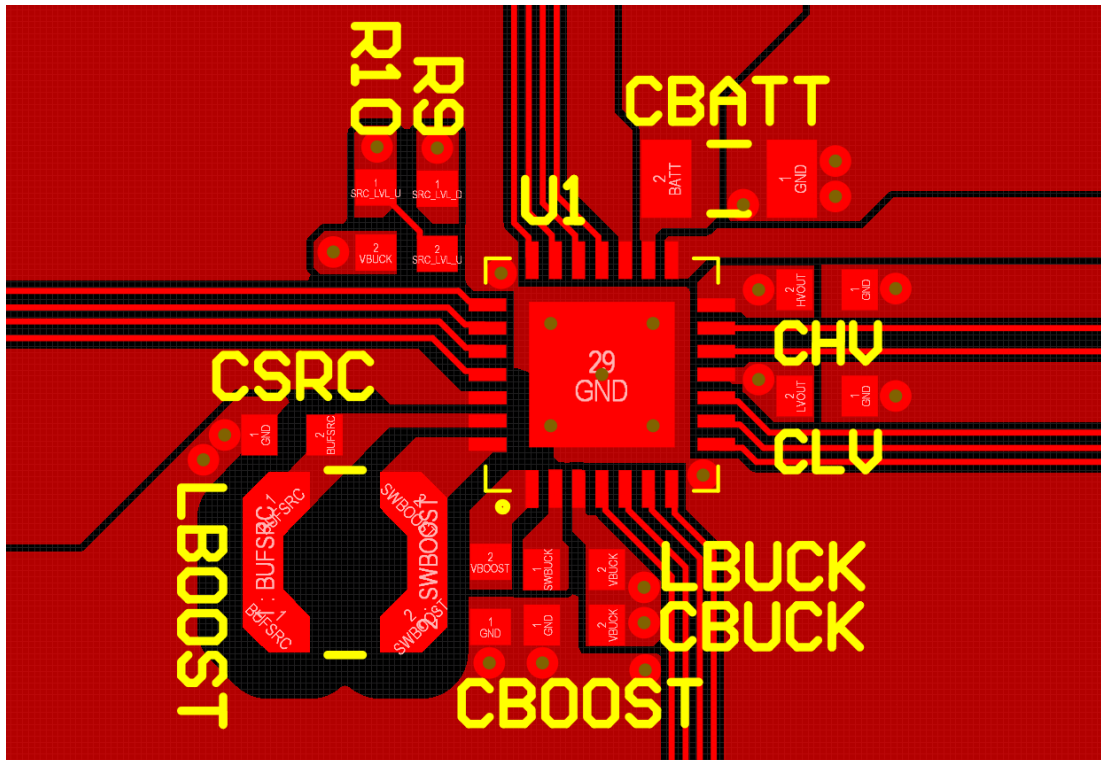

Figure 26: Layout example for the AEM00940 and its passive components
- The switching nodes (**SWBOOST** and **SWBUCK**) must be kept as short as possible, with minimal track resistance and minimal track capacitance. Low resistance is obtained by keeping track length as short as possible and track width as large as possible between these switching nodes and the AEM0094x pins. Minimal capacitance is obtained by maintaining a large distance between the switching nodes and other signals. We recommend removing the ground plane, the power plane and the bottom layer ground pour under **L_{BOOST}** and **L_{BUCK}** footprints, as well as adding distance between **BUFSRC/SWBOOST** and the top ground pour, as shown in Figure 26.
- The **GND** return path between the decoupling capacitors and the AEM0094x thermal pad, which is the AEM0094x main **GND** connection, must be as direct and short as possible. This is preferably done on the top layer when possible, otherwise by internal/bottom plane, using low resistance vias to decrease layer-to-layer connection resistance. In Figure 26, this **GND** return path is done on an internal plane.